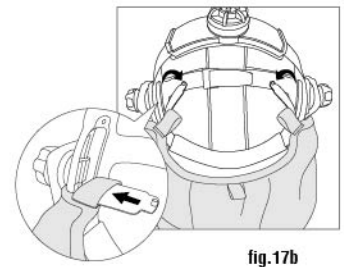

fig.17b
Step 2 : Unfasten buckle inside headgear, let the crochet ribbon get through the buckle (See fig.17b).